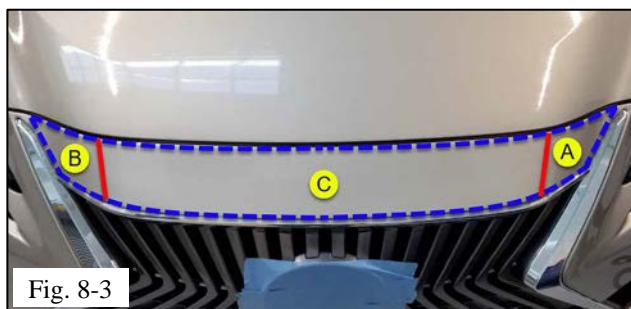

Fig. 8-3
- (c) Align the film properly along the upper edge. Remove the remaining solution pushing it away from steps (a) and (b) towards the center and then out through the upper and lower edges (Fig. 8-3).